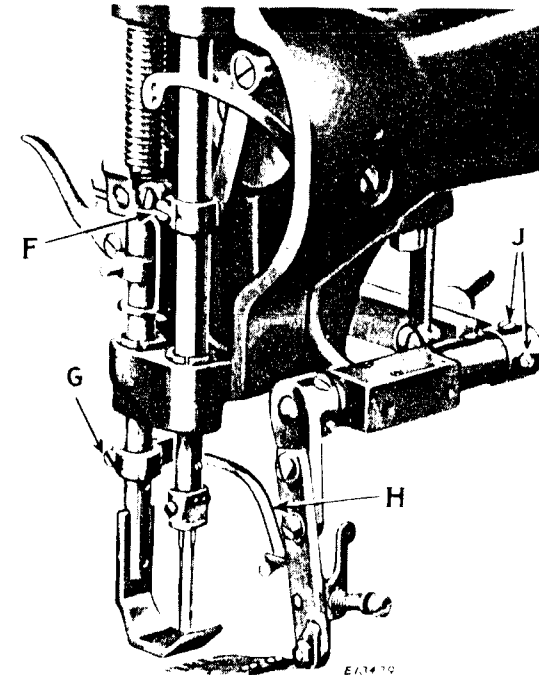

Fig. 14.
The ruffling blade lifting lever (H, Fig. 14) should lift the blade high enough so that the material can be moved under it without catching, when the presser bar is raised, but should not lift the blade while the presser foot is down on the material. The lifting lever may be raised or lowered on the presser bar after loosening the clamp screw (G, Fig. 14).
The blade may be moved forward or back after loosening the two set screws (J, Fig. 14). For heavy or stiff material it may be desirable to set the blade more than  $1/32$  inch beyond the needle.
In case the needle bar is not correctly set, loosen the needle bar clamp screw (F, Fig. 14) and place the needle bar in correct position, then securely tighten the screw (F).